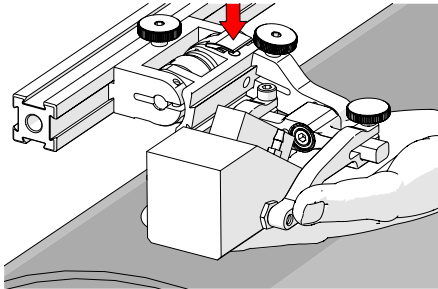

Fig. 63 - Lift and press latch button
3. Lift the probe slightly and press the latch button (Fig. 63) to apply spring pressure to the wedge.